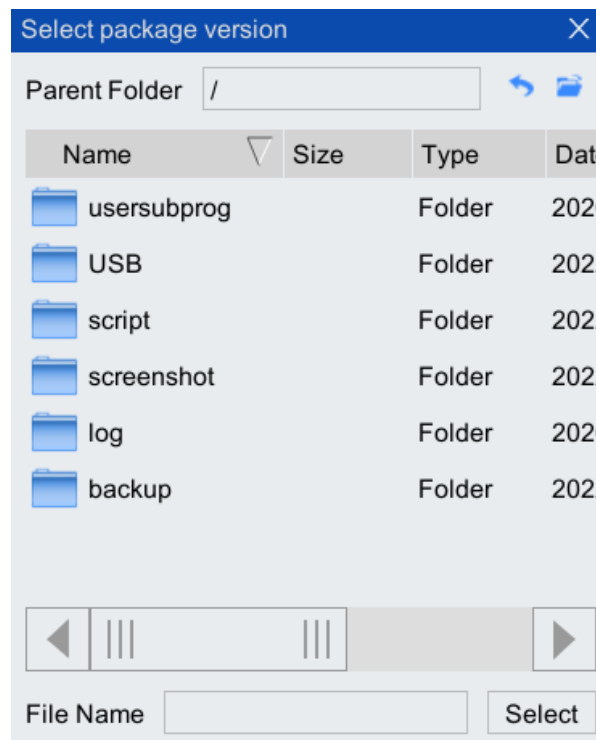

Figure 4-3 "Select Package Version" dialog box
Step5. Click "Install" button to pop up the "Select Package Version" dialog box shown in Figure 4-3.